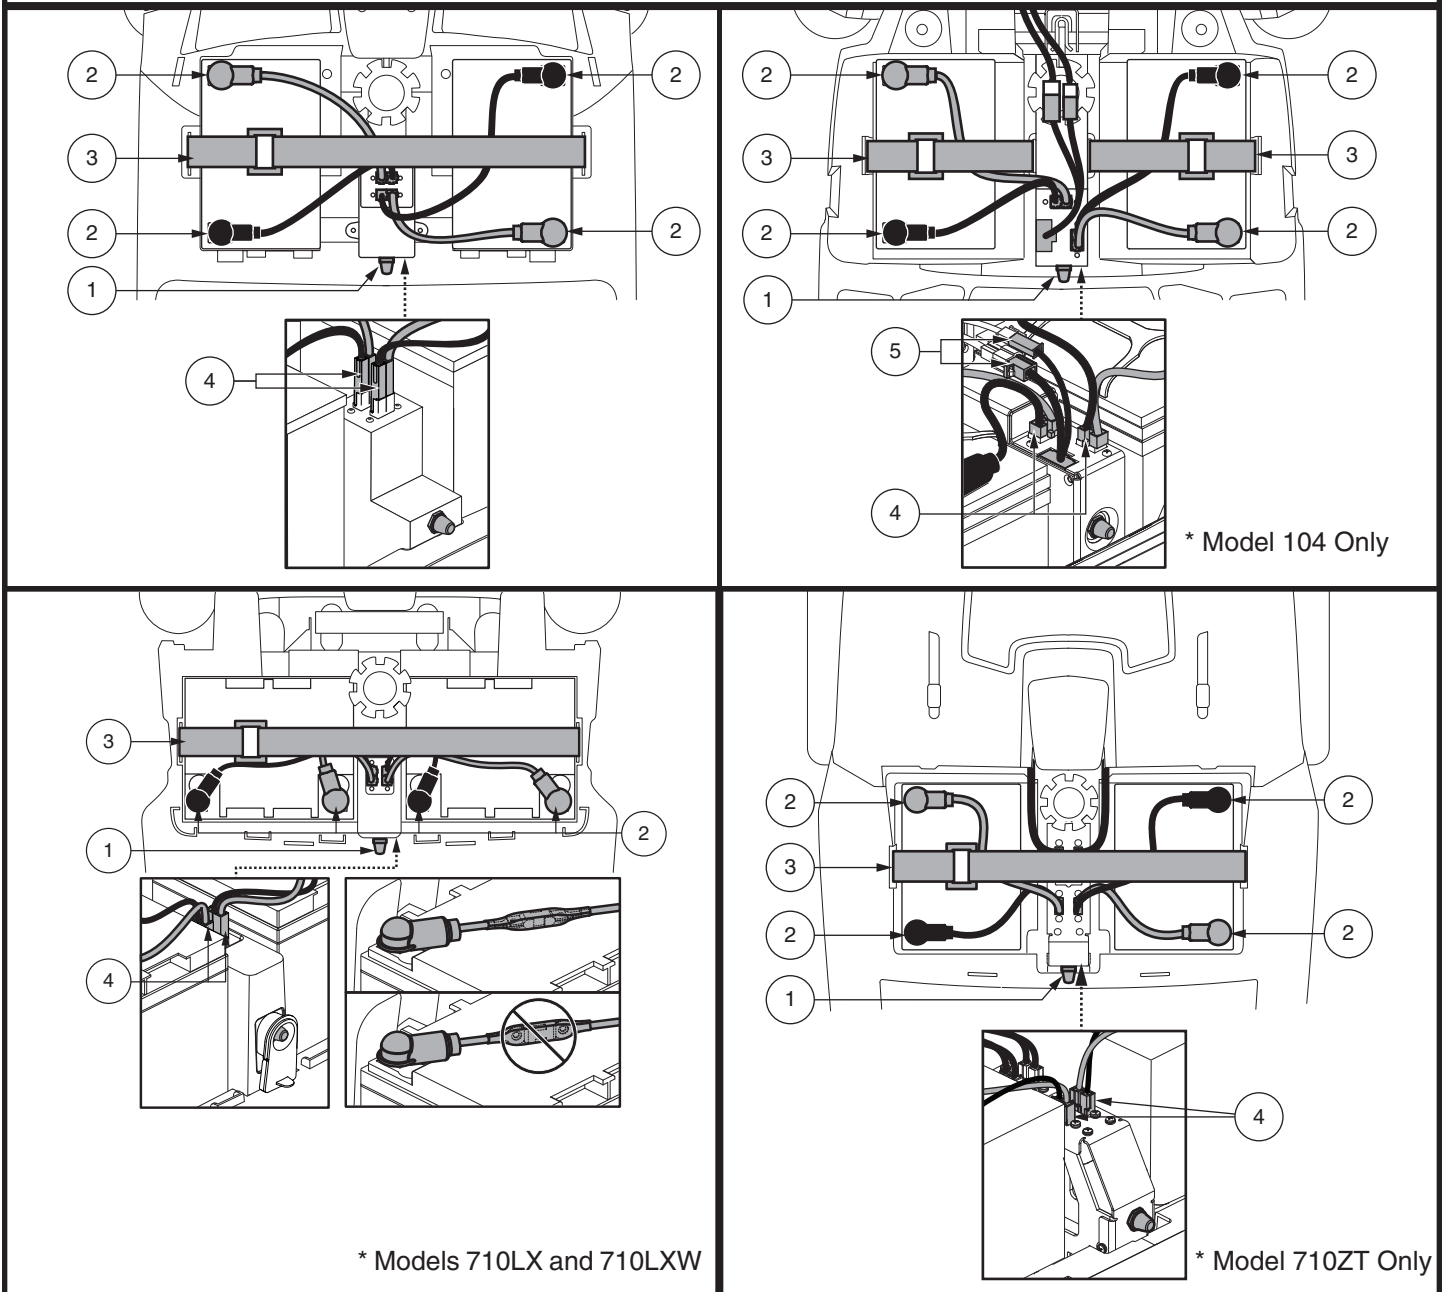

Figure 14. Battery Removal/Installation Terminals and Connections
2. Disconnect the battery tie-down strap. **See figure 14.**
3. Disconnect the battery harnesses by depressing the tabs on the battery harness connectors and pulling them straight up. **See figure 14.**
6. Place a new battery in each battery well. For 710LX and 710LXW models, face the battery terminals of each battery rearward. For all other models, face the battery terminals of each battery opposite each other and toward the outer sides of the scooter. **See figure 14.**